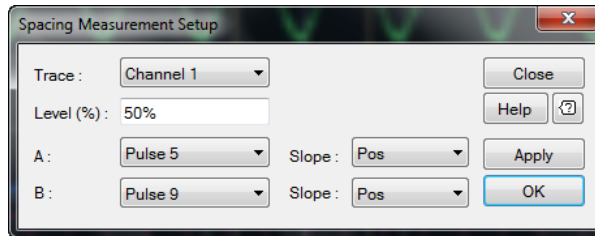

Figure 2-84 Spacing Measurement Setup dialog
- 2 The Spacing Measurement Setup dialog is displayed as shown in Figure 2-84.